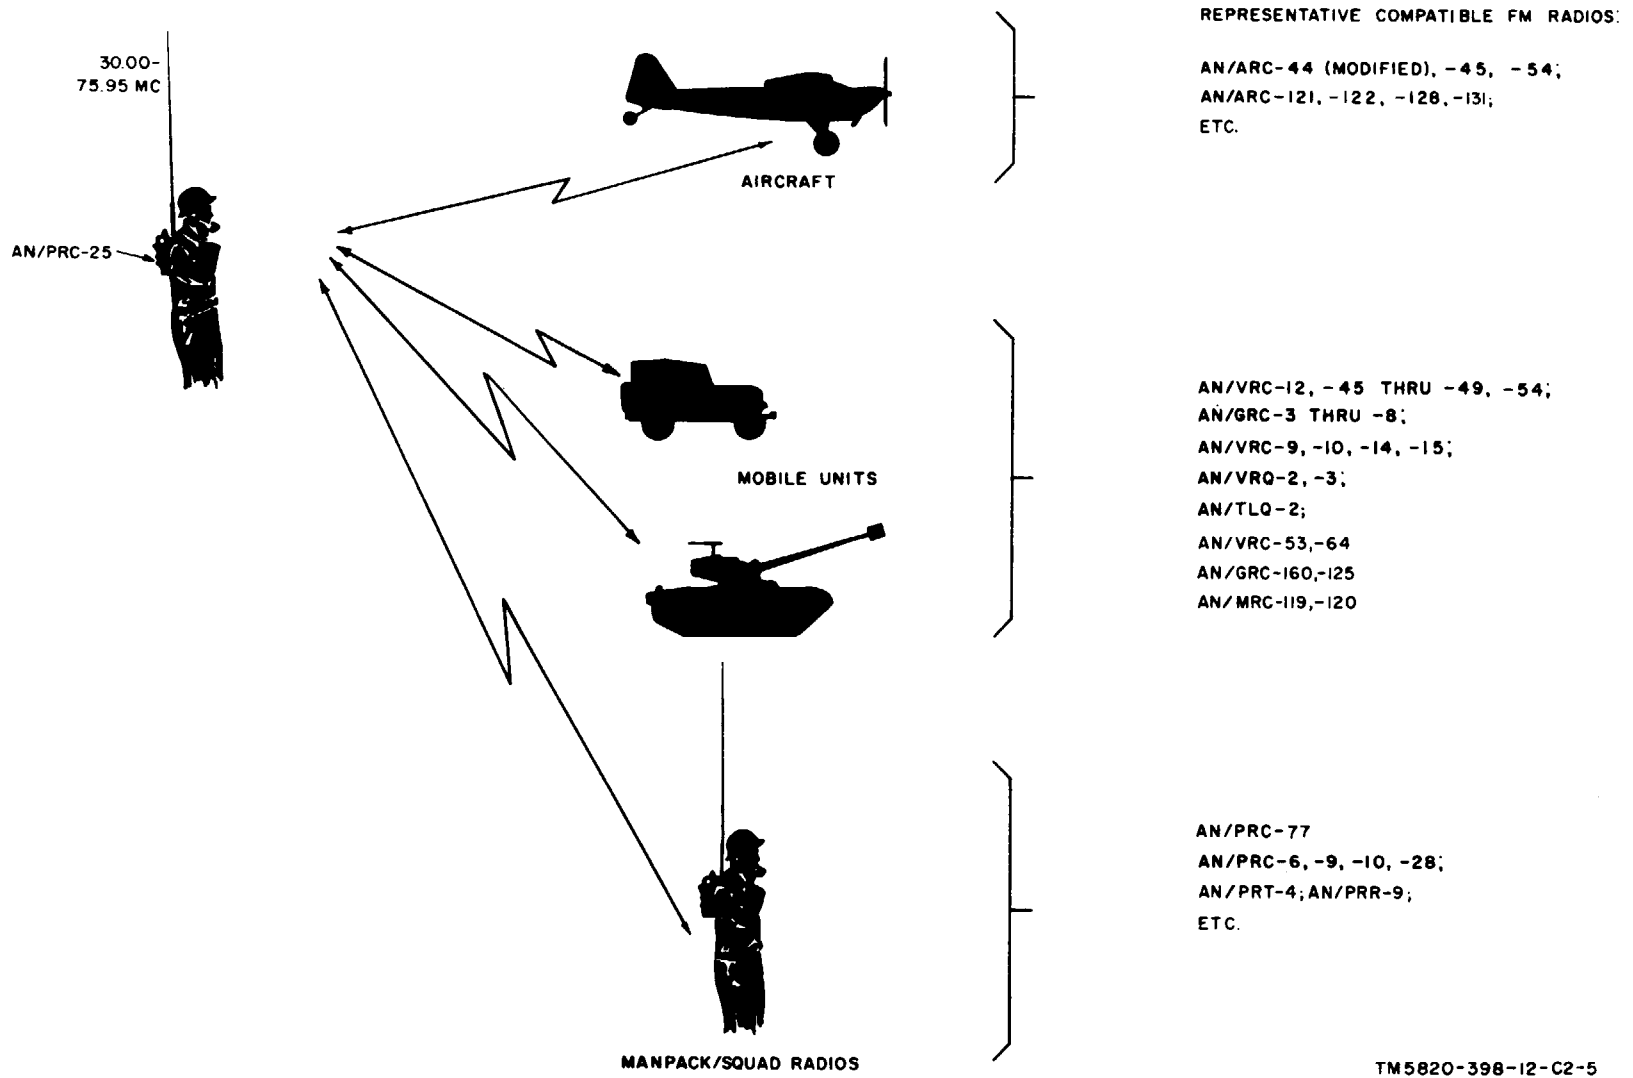

Figure 3-3. Typical radio systems compatible with RT-505/PRC-25, AN/PRC-25.
Figure 3-3 shows various frequency-modulated (FM) radio sets with which the RT-505/PRC 25 can communicate within the 30-75.95-megacycle (mc) band. The chart below lists the frequency ranges, the channel spacing of the radio sets, and their associated publications. All radios listed, except those in which preset crystals are required, can tune to any frequency within its operating range, Take note of the channel spacing in kilocycles. *For example*, communication with the Radio Set AN/PRC-6 can occur on 50.00 mc, 50.20 mc, 50.40 mc, etc.